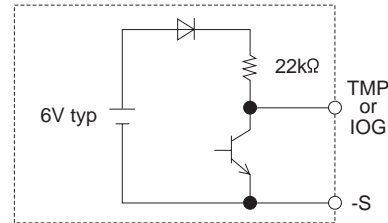

Fig.4.1 TMP, IOG circuit
TMP circuit is designed as shown in Fig.4.1, and specification is shown as in Table 4.1.
- By using the inverter operation monitor(IOG), malfunction of the inverter can be monitored. When inverter operation is in following mode ① or ②, IOG signal turns "H" from "L" within 1 second. IOG circuit is designed as shown in Fig.4.1 and specification is shown in Table 4.1.
- ① Malfunction of inverter.
- ② The output voltage drops by 60% or less of the rated voltage.
- ③ When output wattage is decreased radically to less than 10% of rated wattage.